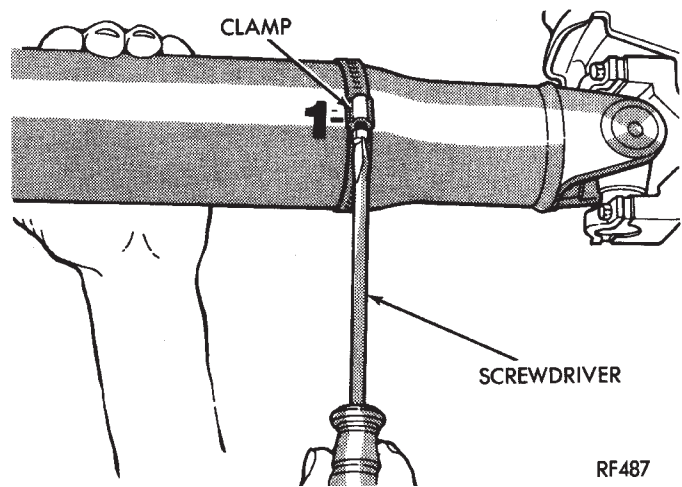

Fig. 4 Clamp Screw At Position 1
- (1) Raise the vehicle.
- (2) Clean all the foreign material from the propeller shaft and the universal joints.
(3) Inspect the propeller shaft for missing balance weights, broken welds, and bent areas. **If the propeller shaft is bent, it must be replaced.**
(4) Inspect the universal joints to ensure that they are not worn, are properly installed, and are correctly aligned with the shaft.
(5) Check the universal joint clamp screws torque.
(6) Remove the wheels and tires. Install the wheel lug nuts to retain the brake drums or rotors.
(7) Mark and number the shaft six inches from the yoke end at four positions 90° apart.
(8) Run and accelerate the vehicle until vibration occurs. Note the intensity and speed the vibration occurred. Stop the engine.
(9) Install a screw clamp at position 1 (Fig. 4).